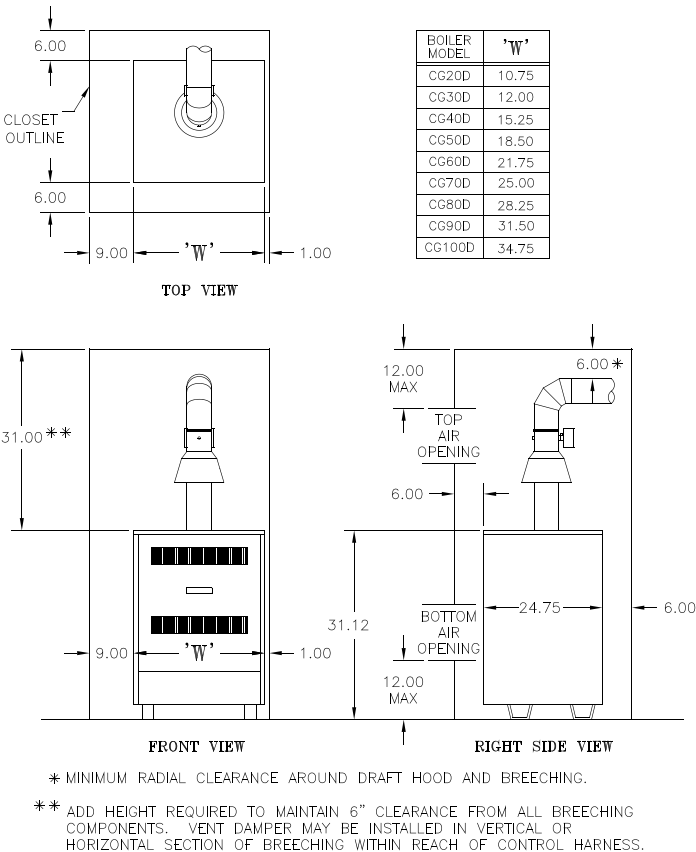

Figure 2: Minimum Clearances to Combustible Construction for Closet Installation
- A. Inspect shipment** carefully for any signs of damage. All equipment is carefully manufactured, inspected and packed. Our responsibility ceases upon delivery of boiler to carrier in good condition. Any claim for damage or shortage in shipment must be filed immediately against carrier by consignee. No claims for variances or shortages will be allowed by Boiler Manufacturer, unless presented within sixty (60) days after receipt of equipment.
- D. Provide clearance between boiler jacket and combustible material** in accordance with local fire ordinance. Refer to Figure 2 for minimum clearance from combustible material for closet installation.
- E. Provide practical service clearances.** A minimum of 24" from the left side and front jacket panels is recommended for servicing but may be reduced to minimums shown in Figure 2. Subject to boiler and system piping, left side clearance may be reduced to 1" if right side clearance is increased to 9".